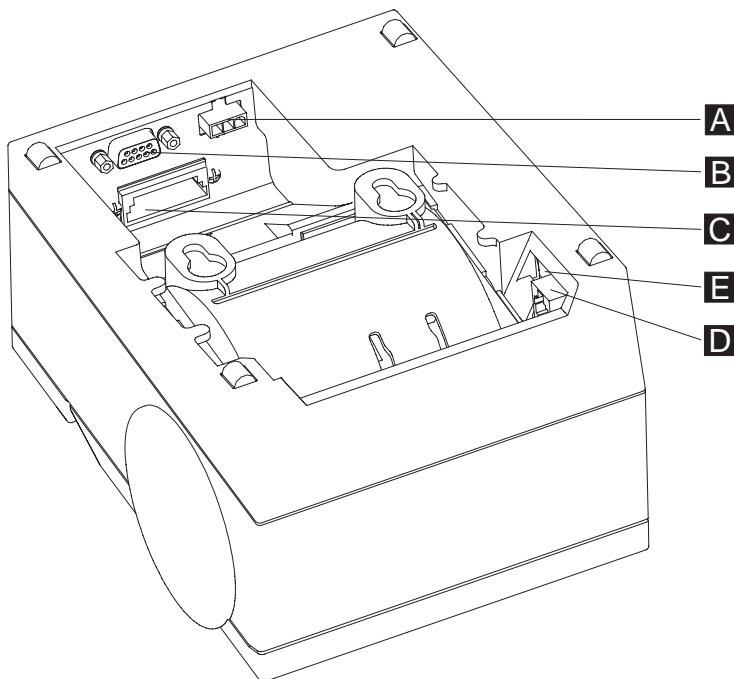

Figure 47. 4610 TF6 or TF7 printer connector locations
Figure 47 shows the 4610 TF6 or TF7 printer connectors.
3. Check the printer RS-232 mode-switch setting for the printer. It is near the rear cable connections. See **E** in Figure 47 for switch location. For switch settings, see the *IBM 4610 SureMark Point-of-Sale Printers User’s Guide*.